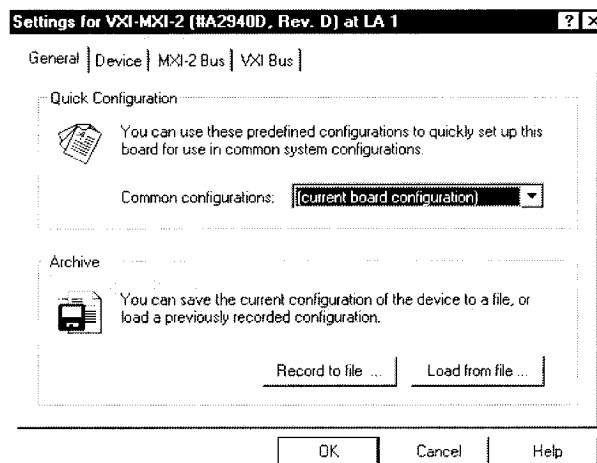

Figure 2-8 *Settings for VXI-MXI-xx*
6. Click the **Hardware Configuration** button. The **Settings for VXI-MXI-xx** dialog box appears as shown in Figure 2-8.
6. Click the **Hardware Configuration** button. Refer to Figure 2-8.